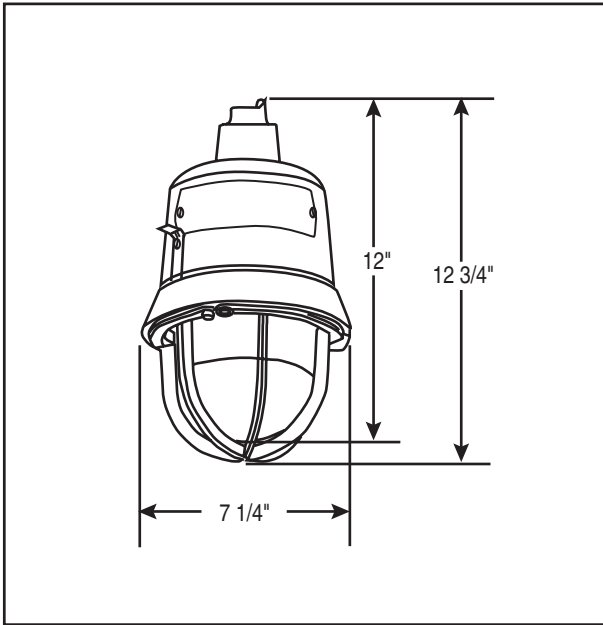

Figure 2. Detail of Pendant Mounting
- a. **Pendant Mount Models** (Figure 2): Install the catalog number 116EX-P, pendant mounting module, to the main housing. Install explosion-proof hanger box (not supplied). Secure 3/4" (19 mm) NPT threaded conduit (not supplied) to the box. Install the unit on the conduit. Proceed to step 2.